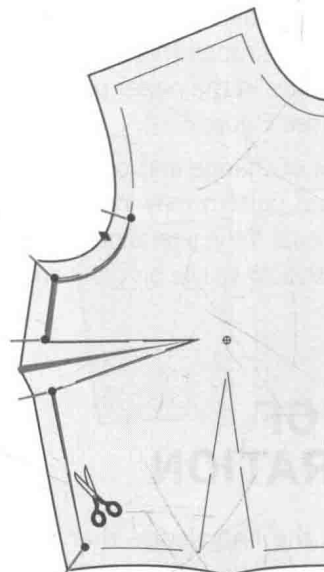

FIGURE 6.26c Cut seam allowances away from the pattern.
5. Cut the affected seam allowance free from the pattern, cutting just inside the stitching line. Larger scissors indicate where to begin cutting. Cut carefully (see Figure 6.26c).